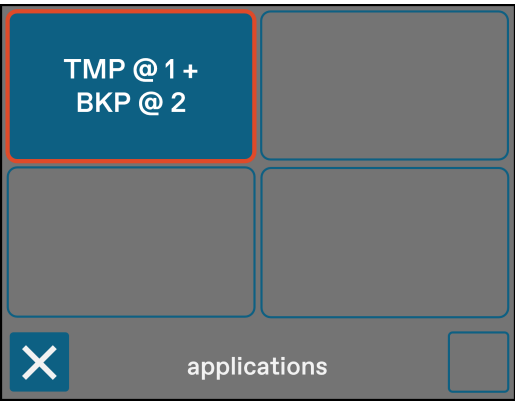

Figure 23: Application selection for pump control screen
5. Choose the application labeled "TMP @ 1 + BKP @ 2" (TMP: turbo molecular pump, BKP: backing pump) and accept the change (Figures 23 & 24).